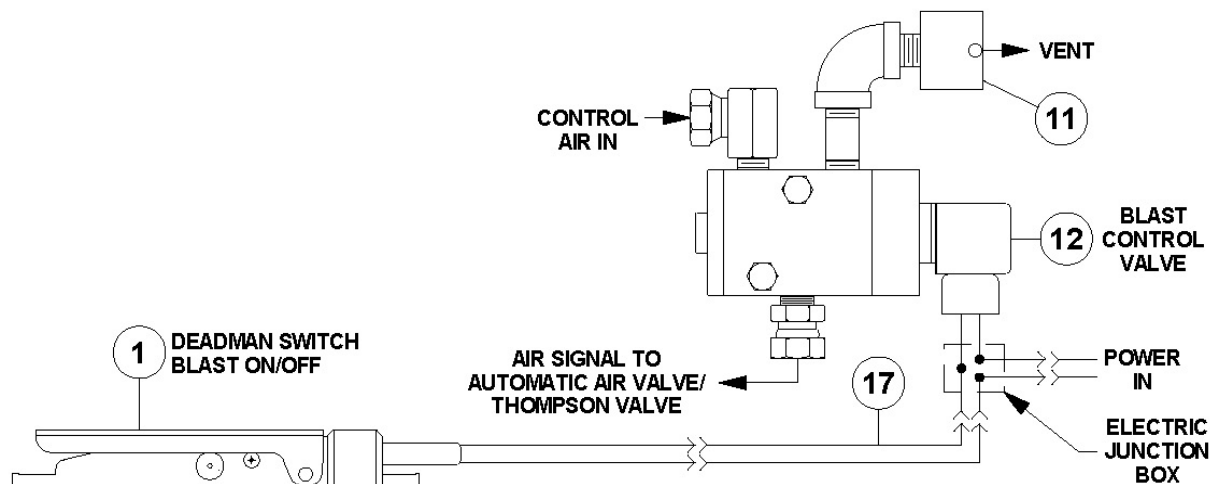

Figure 5.4 – Electric Blast Control System
5.10.2. Electric Deadman System: When the electric deadman lever is pressed down it closes the electric circuit and supplies electric current to the control valve (#12). The control valve opens and sends air signals to the auto air valve (#10) and the Thompson Valve® (#13). When the deadman lever is released the electric circuit is cut off closing the control valve. The signal air vents from the breather (#11). See Figure 5.4 and the drawing in Section 9.2.